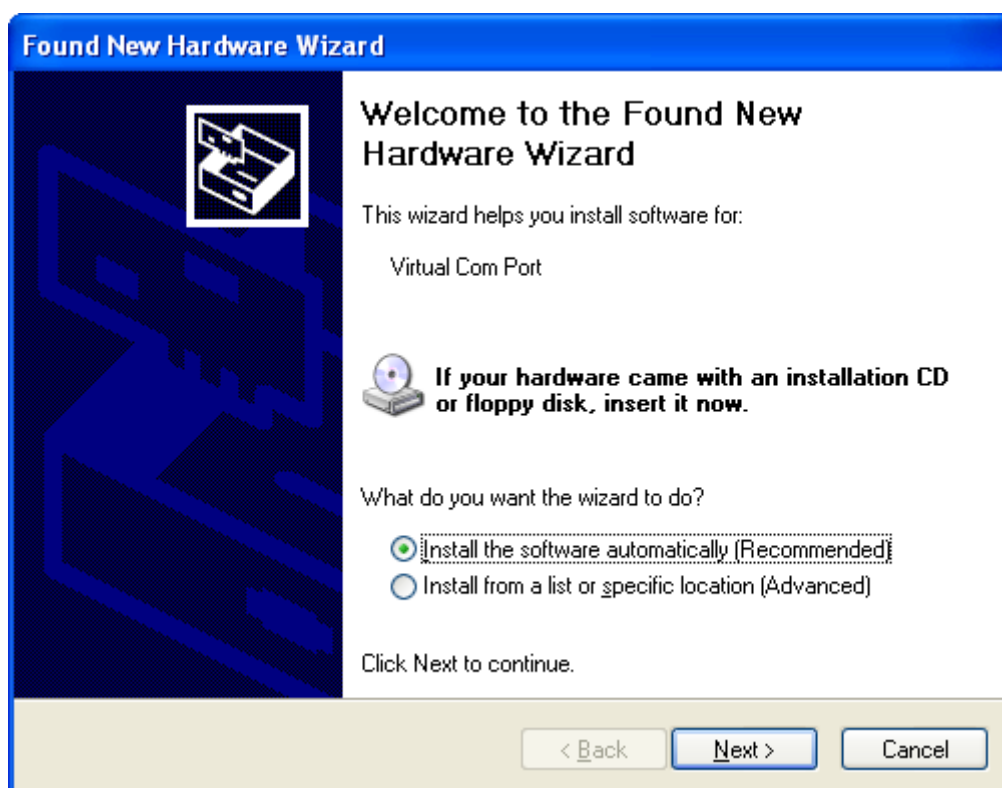
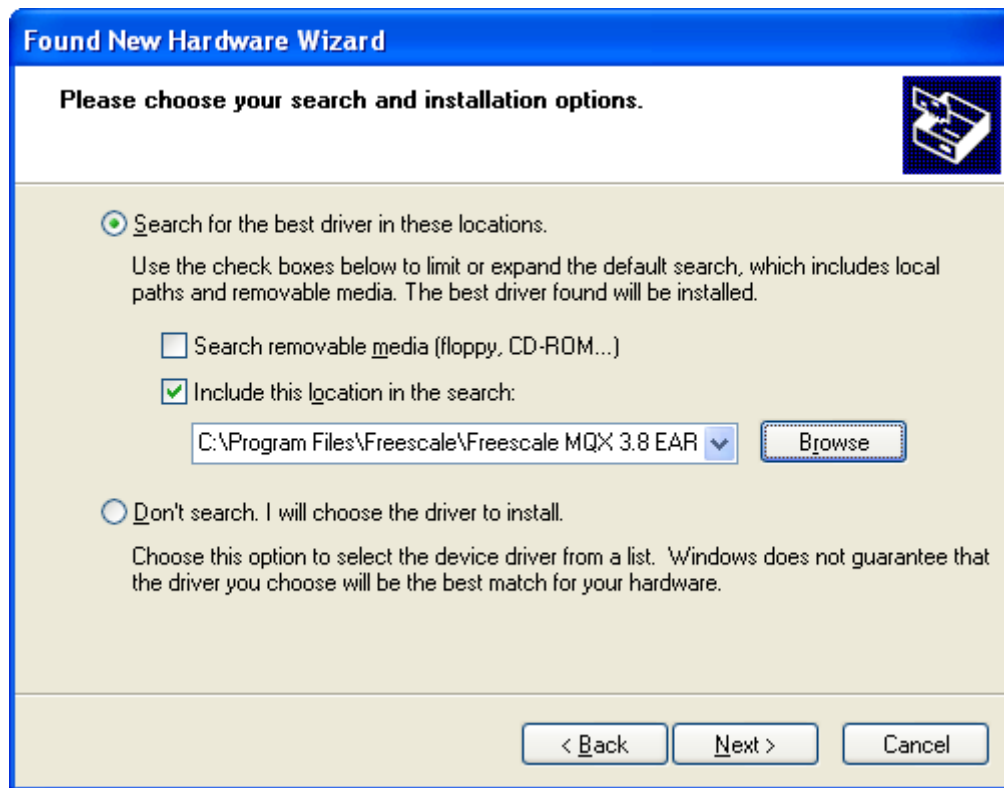

Figure C-1. Found New Hardware window
Figure C-2. Search and installation options
2. Select “Install from a list or specific location (Advanced)” option as shown in Figure C-1, and click on the “Next” button. Search and installation options window appears as shown in Figure C-2.
Point the search path to the inf directory as shown Figure C-2 and click on the “Next” button. The driver for the device will get installed. To verify the installation, open the device manager. You should see the FSL Virtual COM Port device entries.